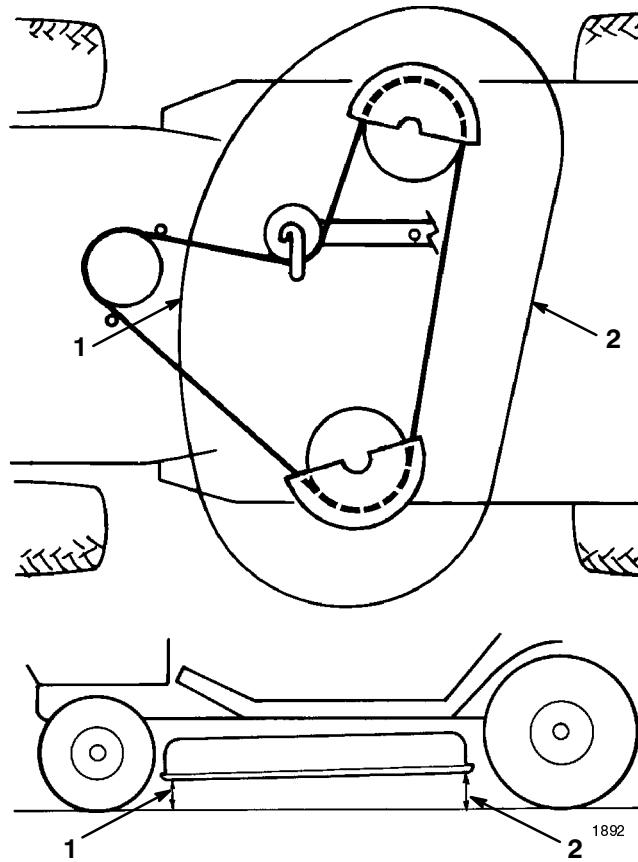

Figure 49
6. Check the front to rear slope by measuring between the bottom of the mower (front center and rear center) and the flat surface (Fig. 49). If the front is not within a range of $1/8$ ”– $3/8$ ” (3.5mm–10.5mm) lower than the rear, an adjustment is required.